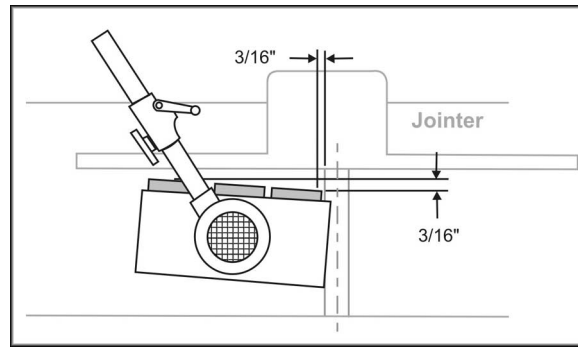

Figure 21
2. Some woodworkers prefer to place the feeder so that all rollers are over the outfeed table, as shown in Figure 21. The infeed roller should be approximately 3/16" away from the lip of the outfeed table at the cutterhead area.